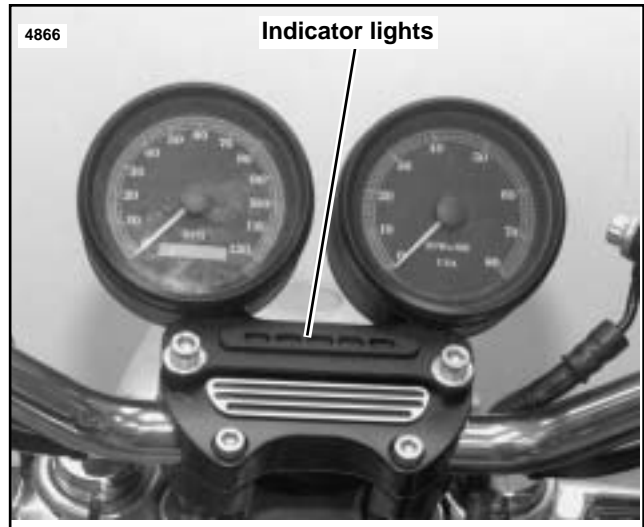

Figure 8. Kit Installed
- 10a. See Figure 8. Place the indicator light bezel and color strip on front of dual bracket. Be sure color strip is positioned on locating pins.
- 11a. See Figure 8. Place speedometer/tachometer assembly in position and install screws, but do not tighten.
10a. See Figure 8. Place the indicator light bezel and color strip on front of dual bracket. Be sure color strip is positioned on locating pins.
11a. See Figure 8. Place speedometer/tachometer assembly in position and install screws, but do not tighten.